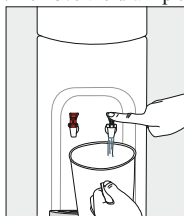
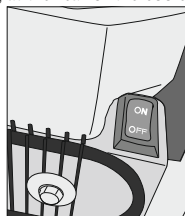
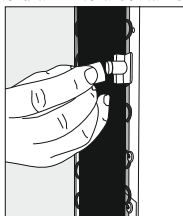
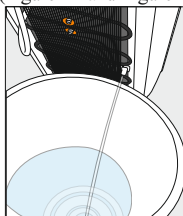

Figure 10
Figure 11
Figure 12
Figure 13
- 5.3 Use a bucket to drain water from the cold water reservoir through faucets (Figure 10). On Hot & Cold models, turn off hot tank switch as above (Figure 11). Allow 1 hour for the hot water to cool down inside the hot water tank. Remove the drain plug at the rear of the cooler to drain into a container (Figure 12 and Figure 13).